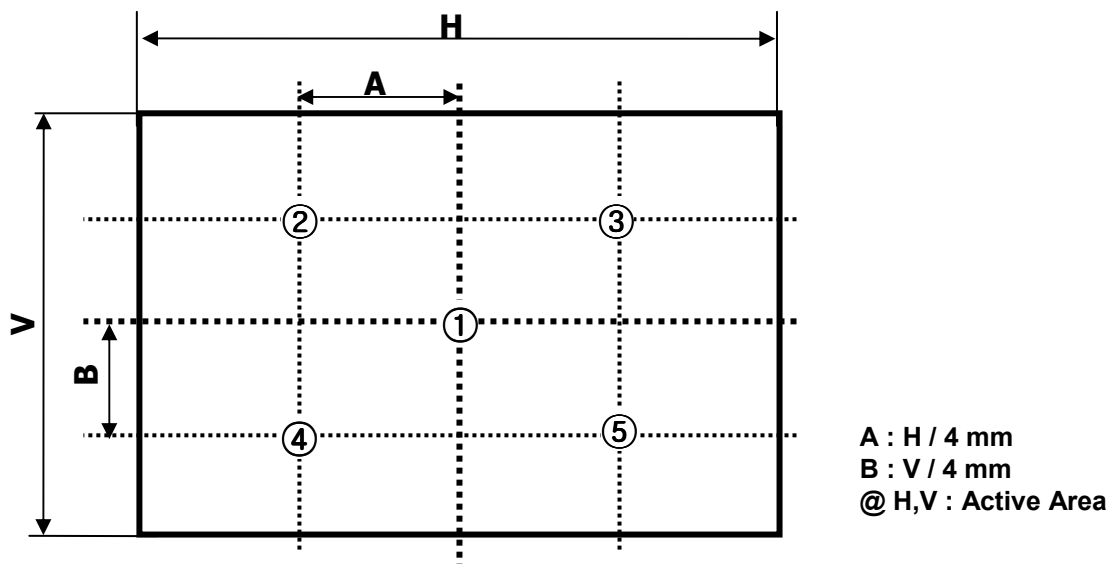

FIG. 2 5 Points for Luminance Measure
2. Surface luminance are determined after the unit has been 'ON' and 1Hour after lighting the backlight in a dark environment at  $25 \pm 2^\circ\text{C}$ . Surface luminance is the luminance value at center 1-point across the LCD surface 50cm from the surface with all pixels displaying white. For more information see the FIG. 2.
For more information, see the FIG. 2.